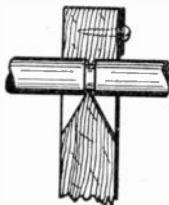

FIG 4a
The shaft rests during its revolutions in the two bearings in Figs. 3 and 4, at the top of the standards (AA); these standards are made of hardwood about three-quarter inch thick. They are 9 inches high and 1½ inch wide. The dovetails (N) are for morticing into the baseboard. The mortices must be notched out to fit the dovetails. The standards are eventually glued to the baseboard, and are also secured by a couple of screws. The shaft can be thrust through the one bearing and is dropped into the other one. Fig. 4 shows how one of the bearings is a notch. The bottom of the open bearing is cut to form a wedge, Fig. 4a, which enters into the groove, made around the shaft, so that the shaft can shift neither to right nor to left.